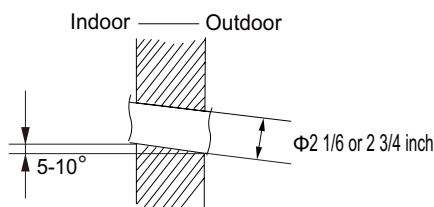

Fig.2
(2) Open a piping hole with the diameter of 2 1/6 or 2 3/4inch on the selected outlet pipe position. In order to drain smoothly, slant the piping hole on the wall slightly downward to the outdoor side with the gradient of 5-10°. (As show in Fig.2)